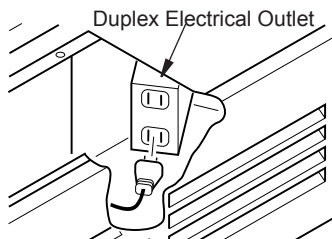

Figure 10 - Accessing Duplex Electrical Outlet Installed in Bottom Right Side of Firebox
WARNING: If there is a duplex electrical outlet installed in the right side of the bottom of the fireplace base area (see Figure 10), be sure that the electrical power to the outlet is turned off before proceeding with blower installation. Failure to do this may result in serious injury.
13. Plug in blower power cord to duplex outlet (see Figure 10, page 12).
9. Plug in blower power cord to duplex outlet (see Figure 10, page 12).